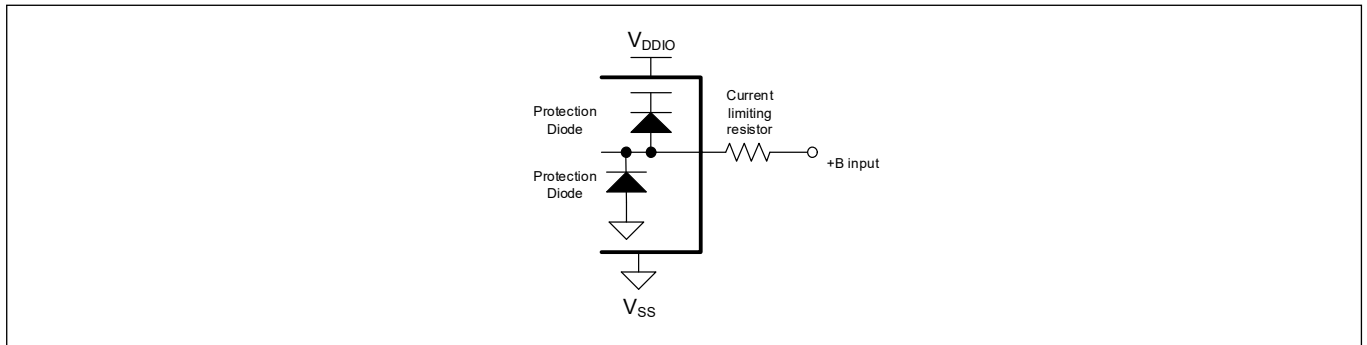

Figure 10 Example of a recommended circuit^[56]
44. A current-limiting resistor must be provided such that the current at the I/O pin does not exceed rated values at any time, including during power transients. Refer to **Figure 10** for more information on the recommended circuit.
44. A current-limiting resistor must be provided such that the current at the I/O pin does not exceed rated values at any time, including during power transients. Refer to Figure 10 for more information on the recommended circuit.